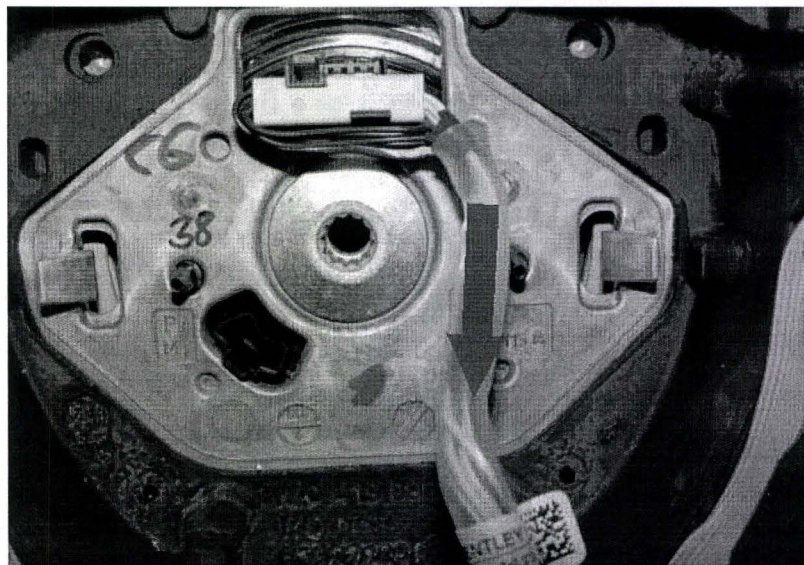

Figure 3
5. Ensure the driver's airbag loom is routed down away from the airbag plug (Figure 3).